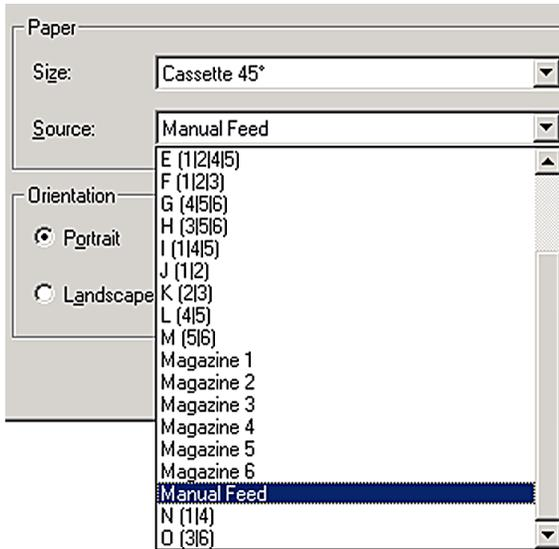

Fig. 37
- In the **PAPER SIZE** menu you select the type of cassette, i.e. the size of the imprintable zone of the cassette. The cassette type selected in this menu should be identical to the one selected in **PAGE SETUP** (Fig. 37).